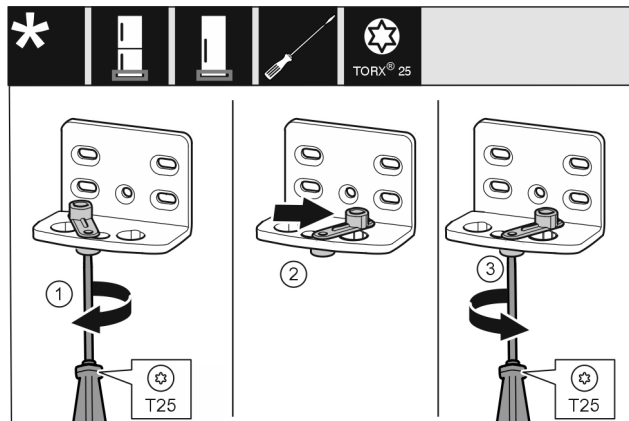

Fig. 18 *
- Use screwdriver to loosen the screw Fig. 18 (1).*
- Lift the door closing aid Fig. 18 (2) and turn 90° clockwise in the hole.*
- Tighten screw Fig. 18 (3) with screwdriver.*